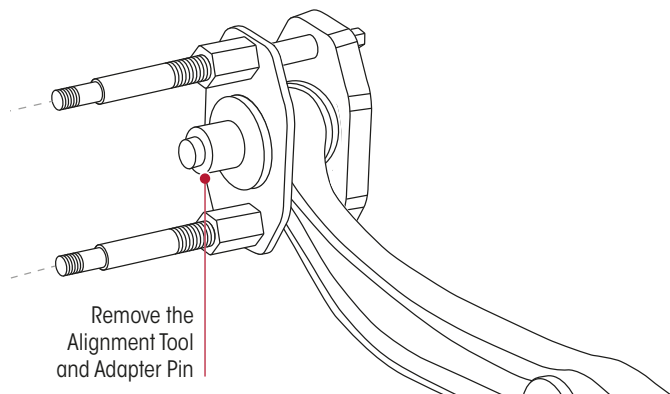

Figure 81: Remove Alignment Tool & Adapter Pin
7. Tighten the clamping nuts to the clamping plate. Refer Figure 81.